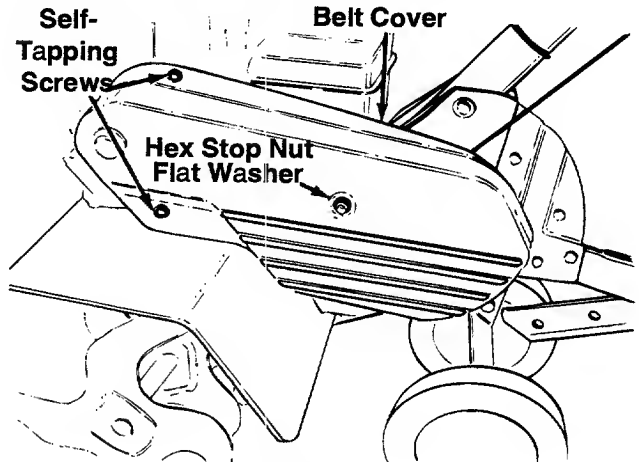

Figure 17
- Remove two self-tapping screws from the front of belt cover. See Figure 17.